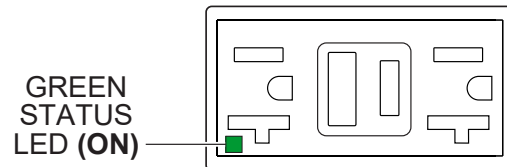

Figure 188. GFCI Receptacle (ON)
3. Verify that the **status LED** on the corresponding GFCI receptacle (Figure 188) is **ON (GREEN)**.